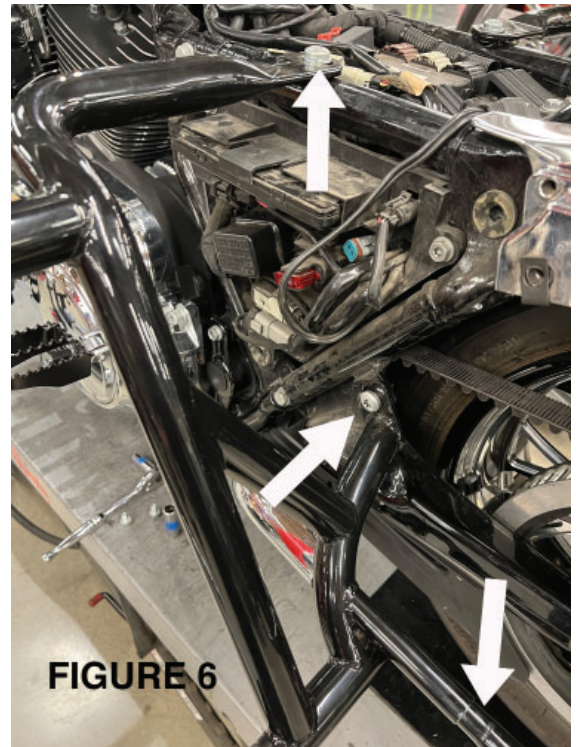

FIGURE 6
5. Next slide each saddlebag guard (#2 & #3) over the corresponding support rail and loosely mount to the bike using 3/8"-16 X 1-1/4" screws (#10) and washers (#12) for the top mounts and 3/8"-16 X 1" screws (#9), washers (#12) and lock nuts (#13) for the side mounts. And drops of thread lock. See Figure 6.